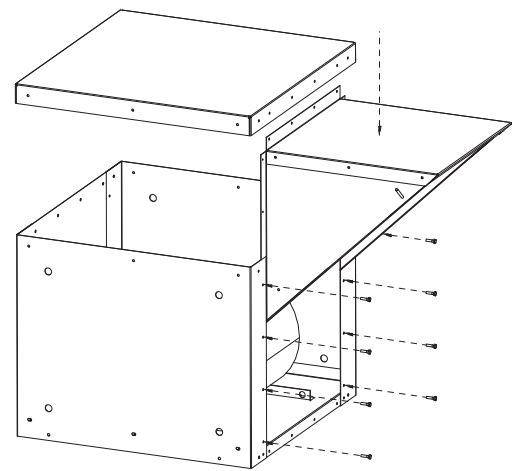

Figure 14 – Weatherhood Assembly
- Slide weatherhood into place as shown in Figure 14. Weatherhood